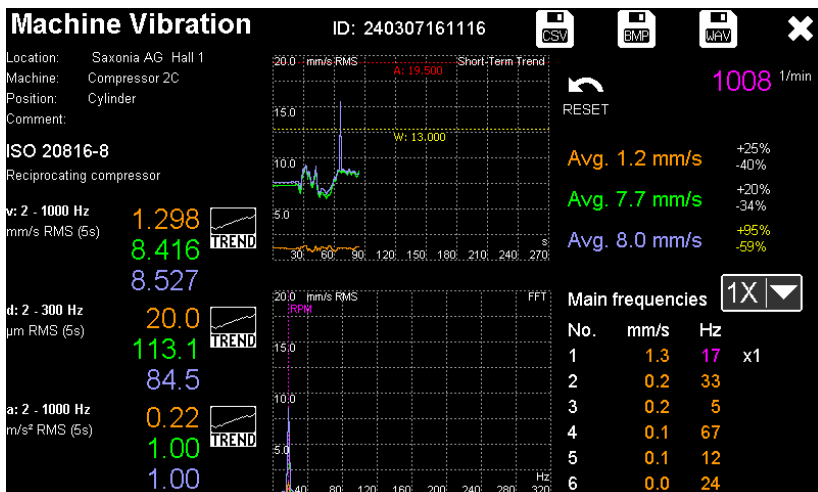

Figure 38: Measurement according to ISO 20816-8
- ➔ For measurements according to ISO 20816-8 with acceleration, velocity and displacement, no phase angles are output for reasons of space (Figure 38).